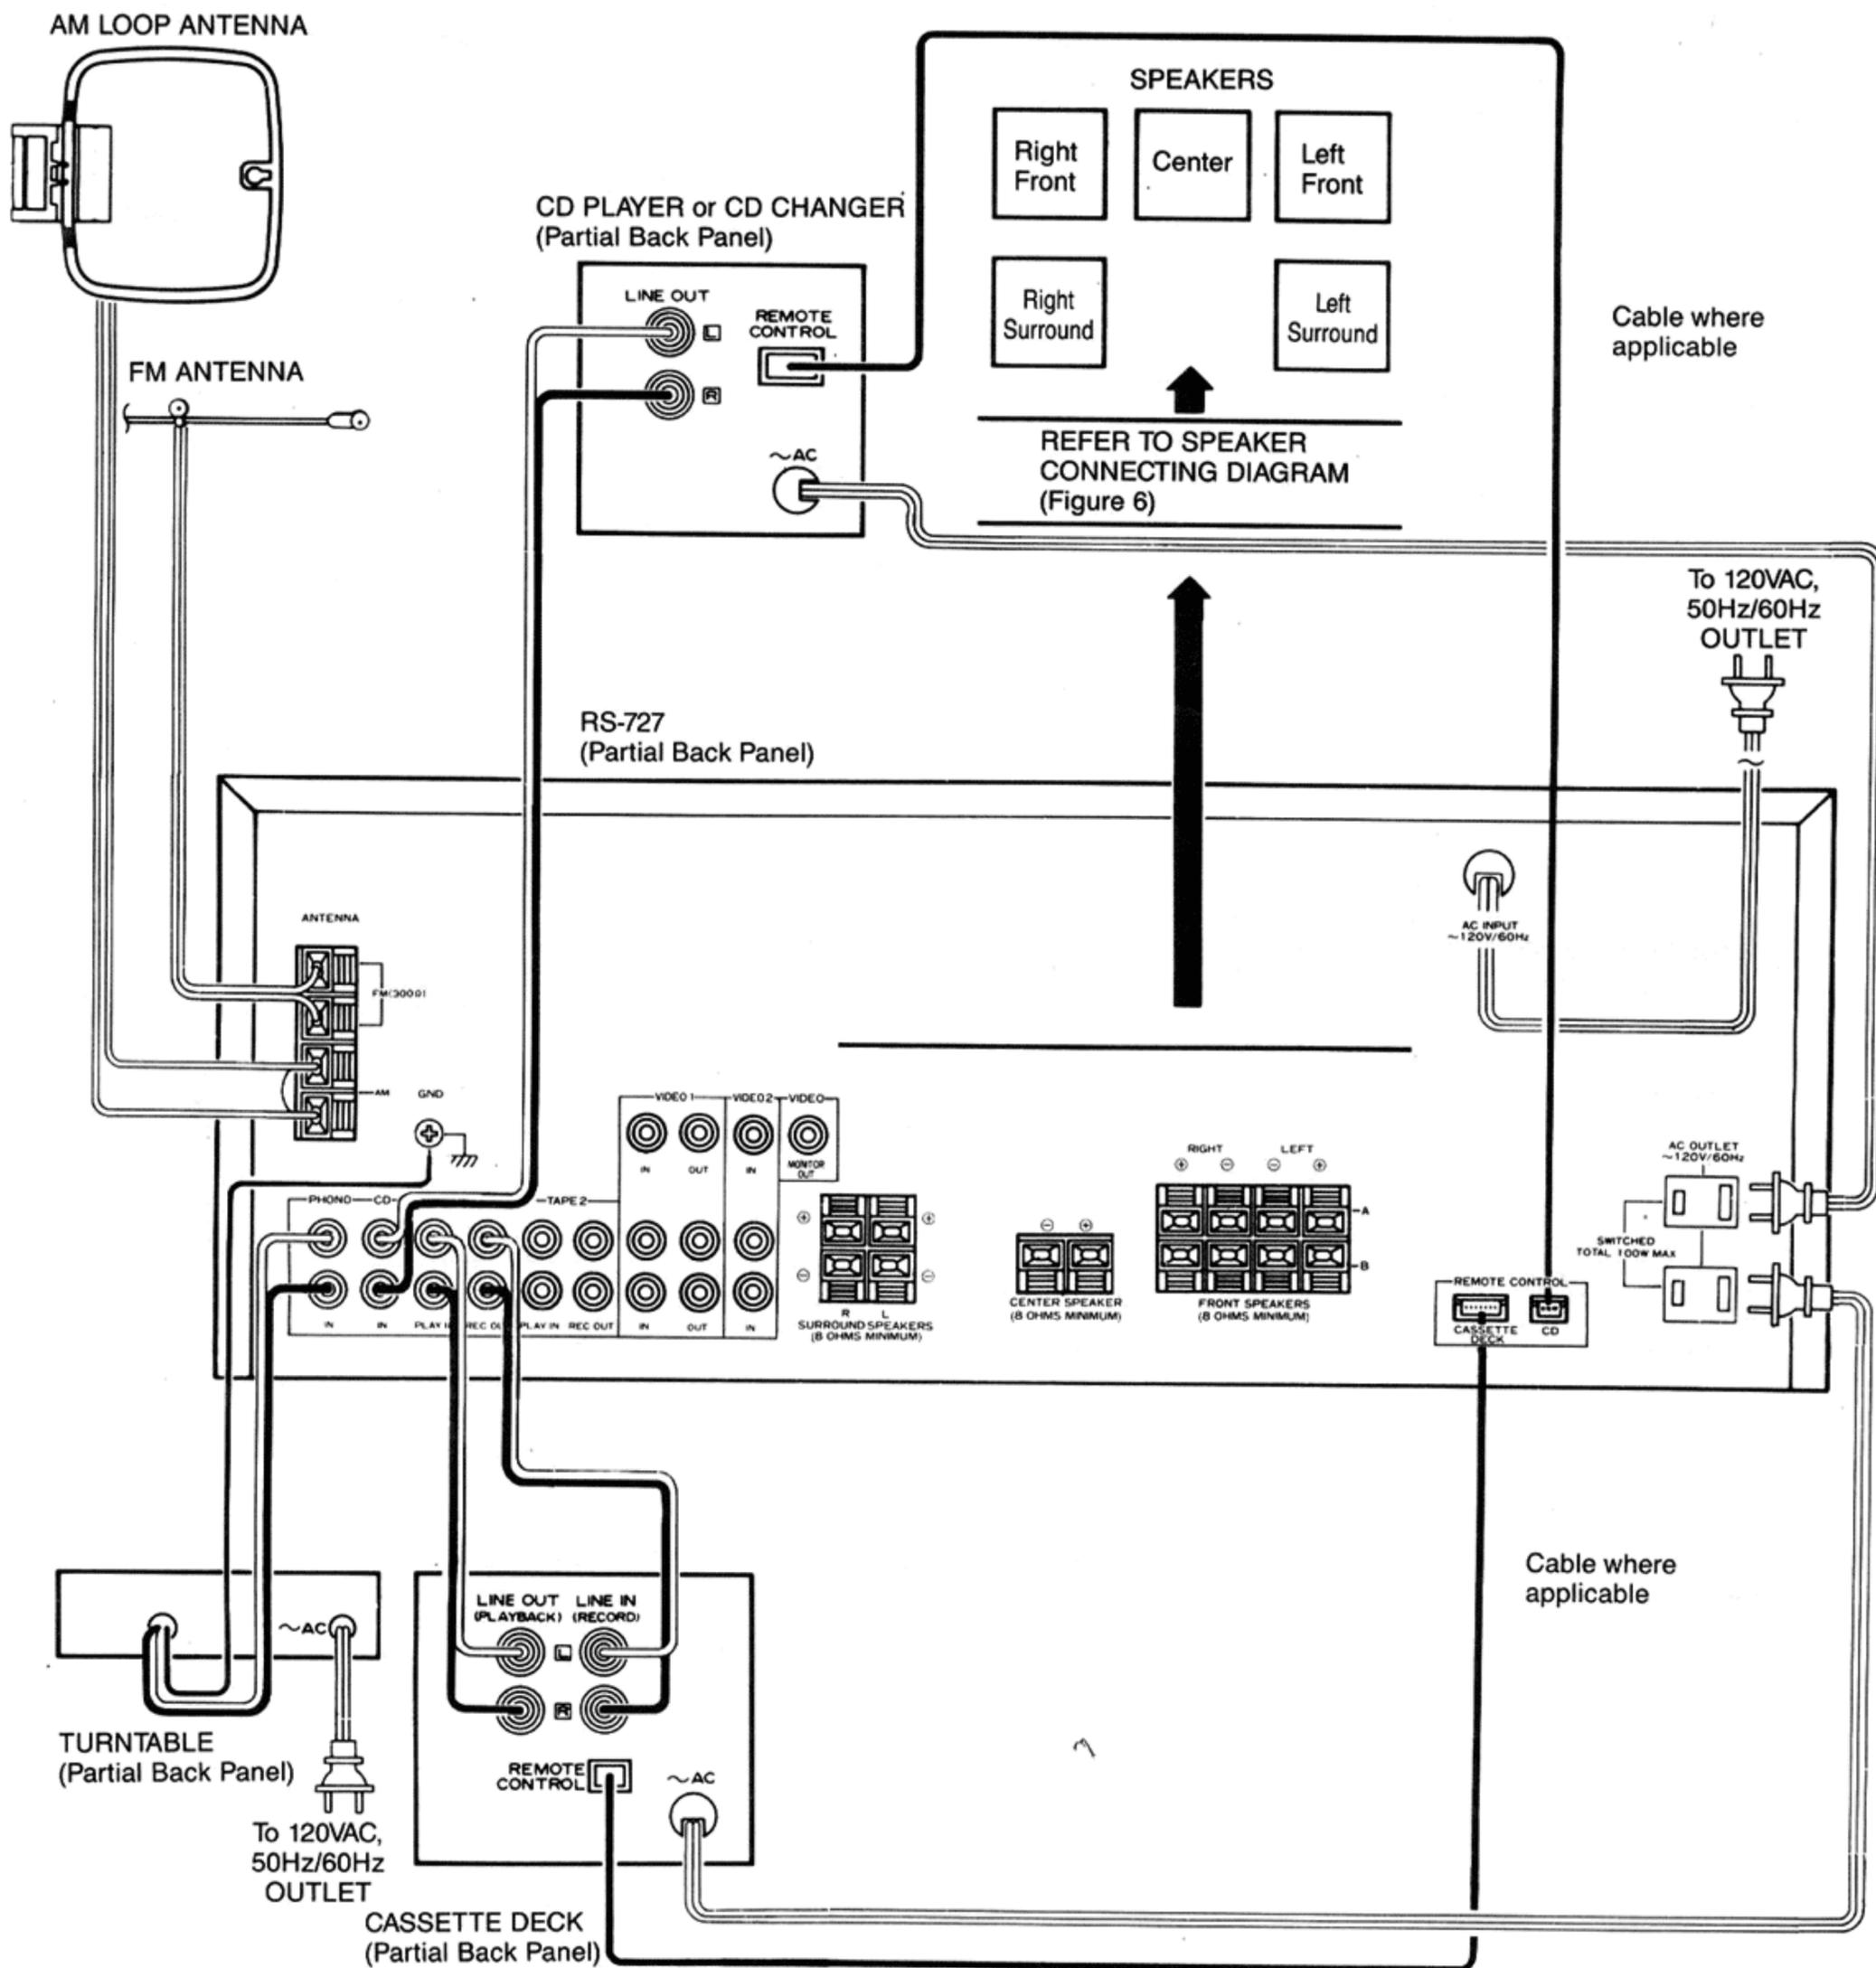
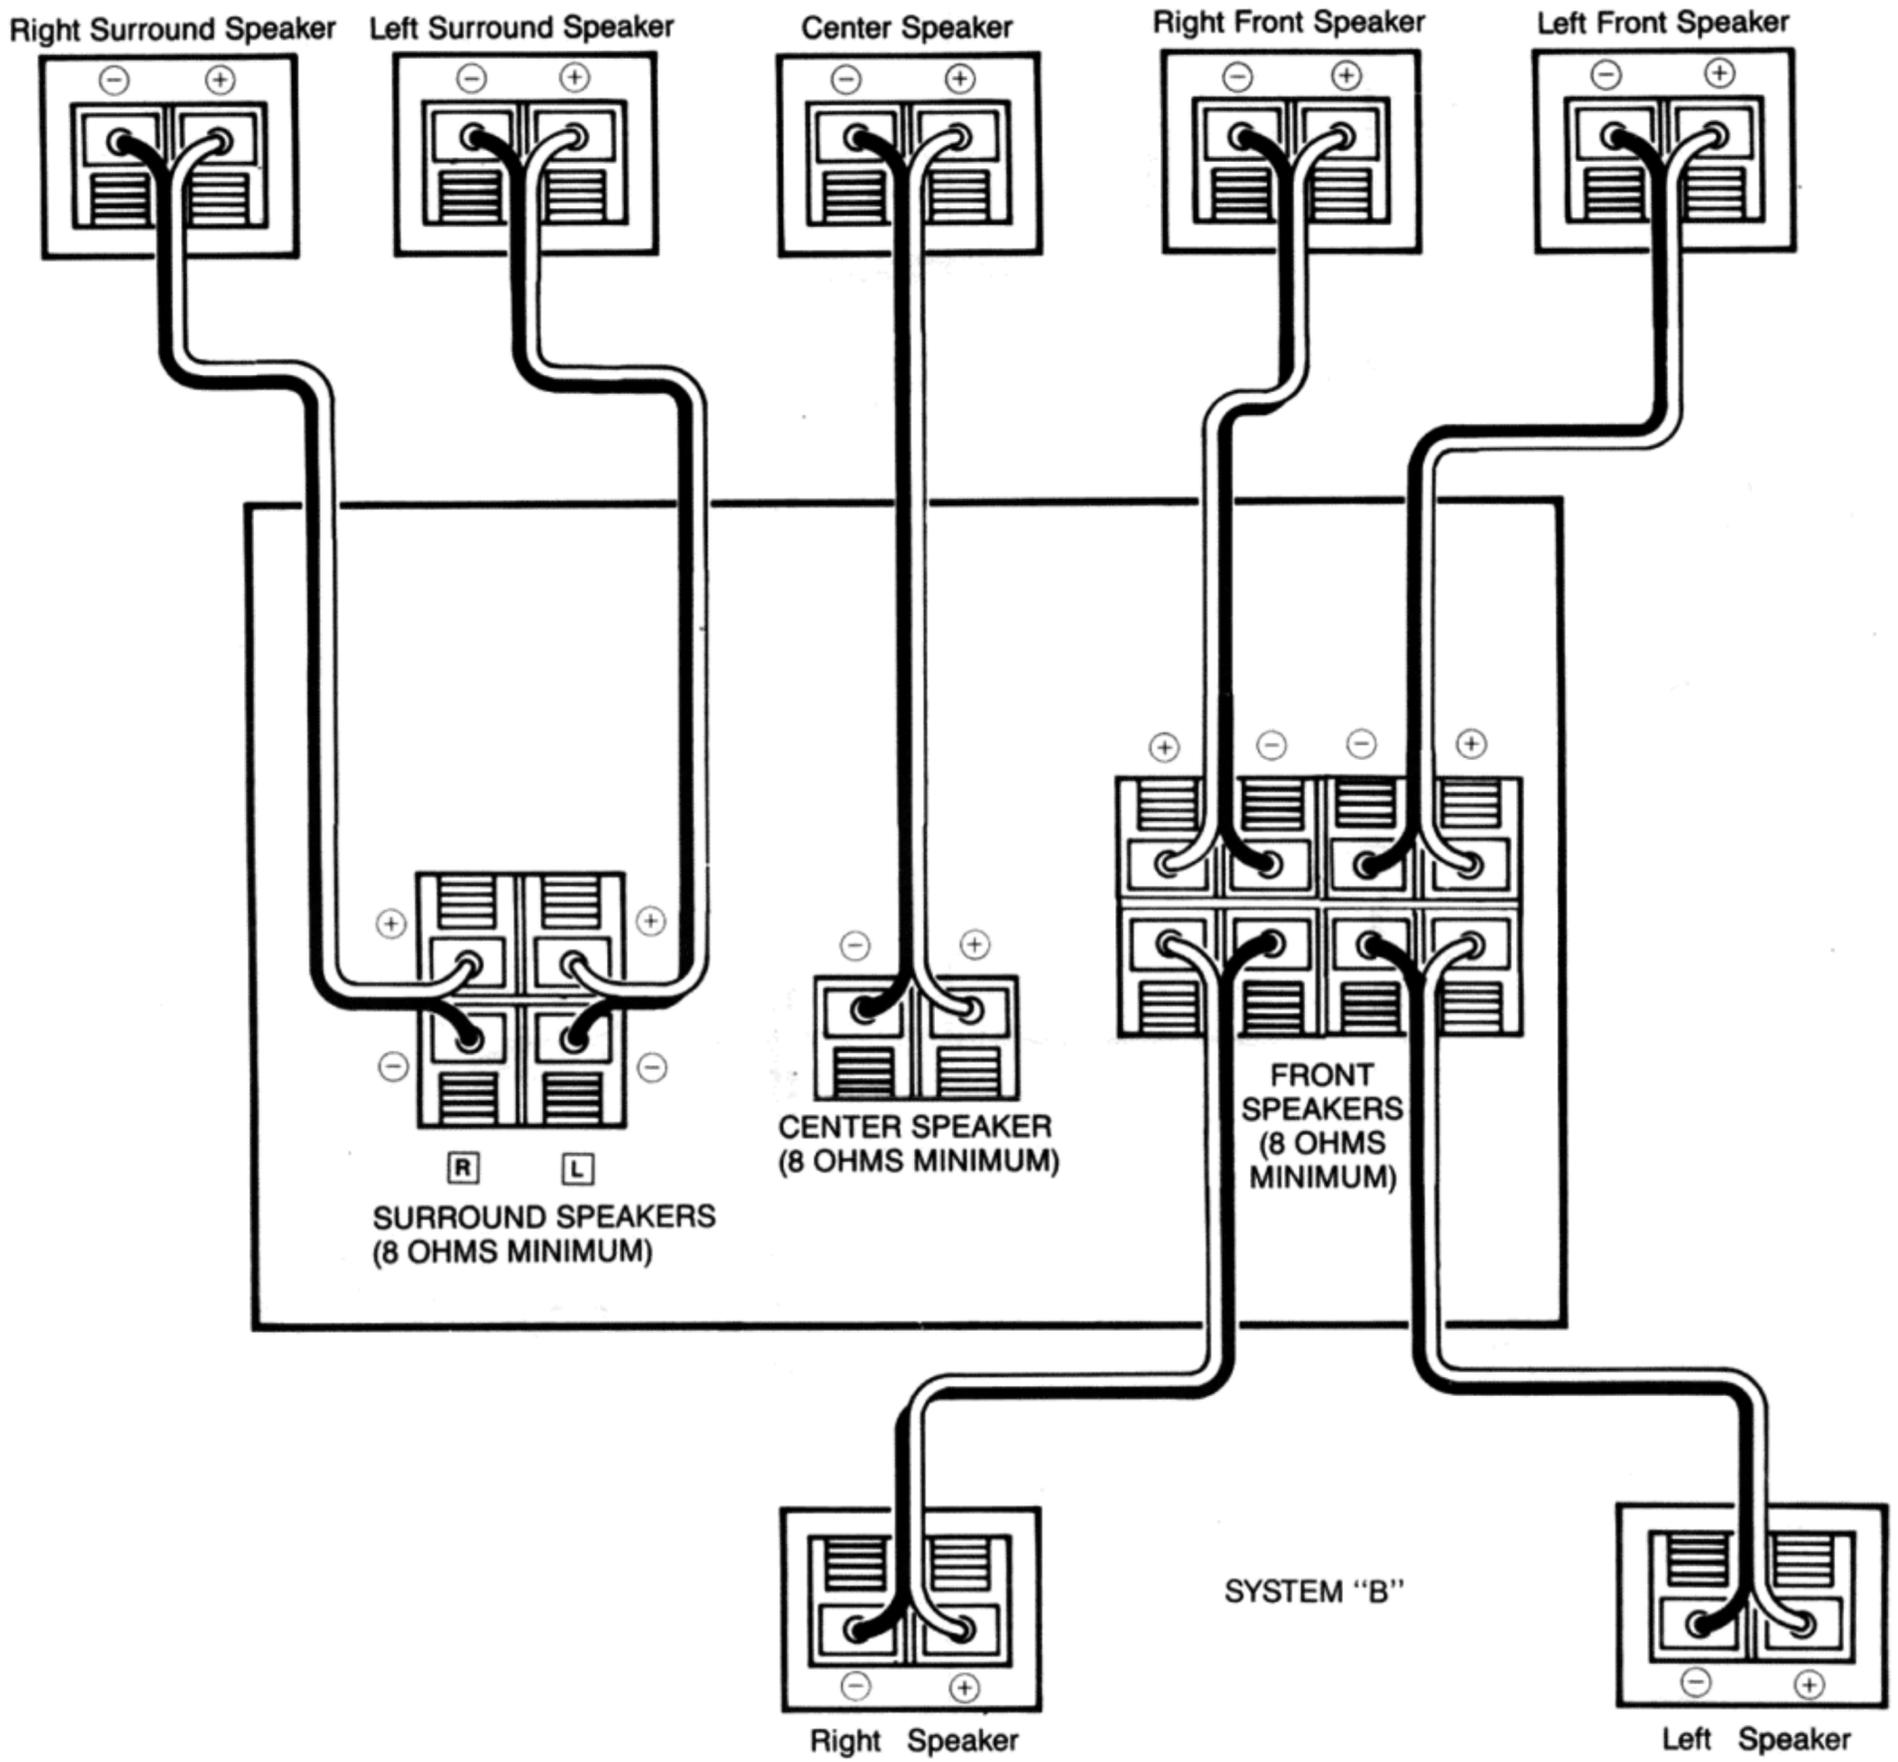

Figure 5
Figure 6
1. Connect the supplied FM dipole antenna to the ANTENNA terminals marked "FM (300Ω)" on the receiver as shown in Figure 5.
2. Connect the supplied AM loop antenna to the ANTENNA terminals marked "AM" on the receiver as shown in Figure 5.
3. Connect the audio cable from the turntable to the PHONO jacks on the receiver as shown in Figure 5.
**Be sure to connect the ground wire from the turntable to the GND (Ground) terminal on the receiver, as shown in Figure 5.**
4. Connect the audio cable supplied with the CD player or CD changer to the CD jacks on the receiver as shown in Figure 5.
5. Connect the audio cables supplied with the cassette deck to the TAPE 1 jacks on the receiver as shown in Figure 5.
6. When using a compatible Fisher CD player, CD changer or cassette deck, connect the remote control cables supplied with the above units as shown in Figure 5.
7. Eight terminals are provided for two pairs of MAIN speakers, SYSTEM-A and SYSTEM-B. If only one pair of speakers is used, connect them to the SYSTEM-A speaker terminals. Connect the front speakers to the terminals as shown in Figure 5 and Figure 6.
9. Connect the power cords from the CD player or CD changer and cassette deck to the SWITCHED AC outlets on the receiver. Refer to Figure 5.